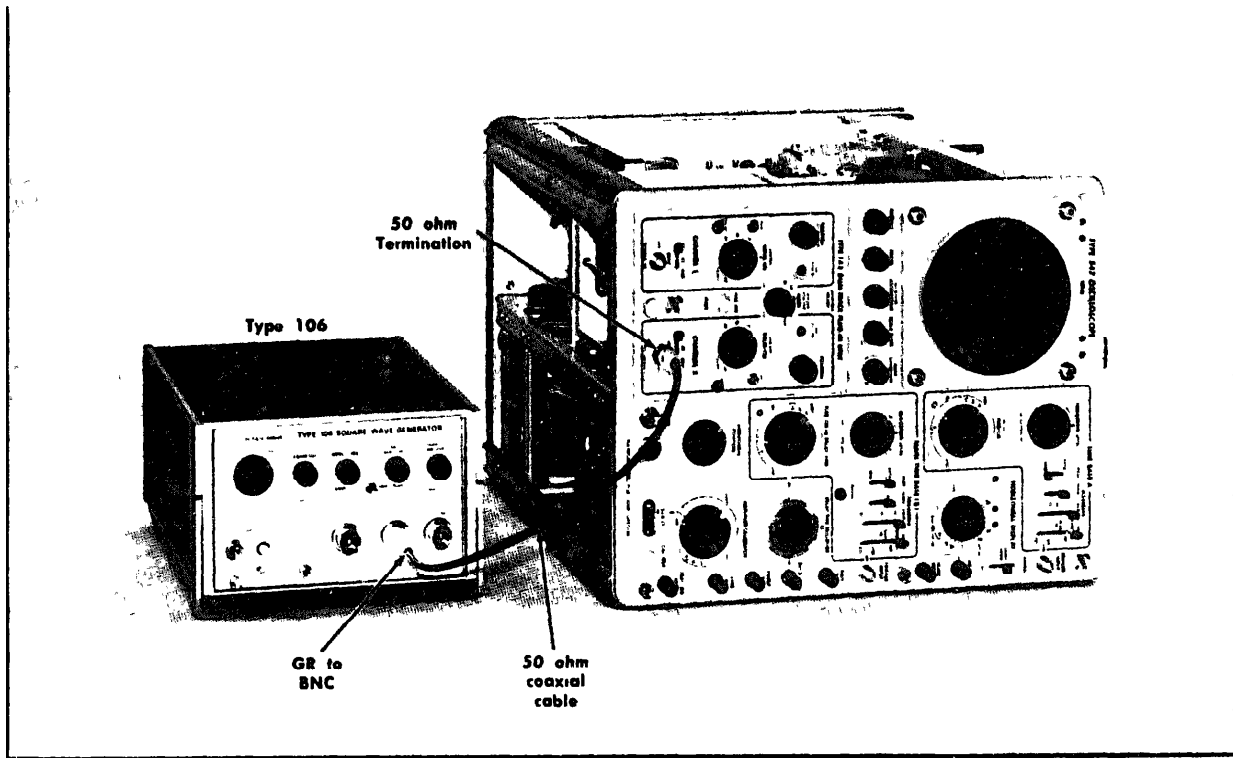

Fig 7-13 Initial equipment setup for step 20
- a. Equipment setup is shown in Fig 7-13